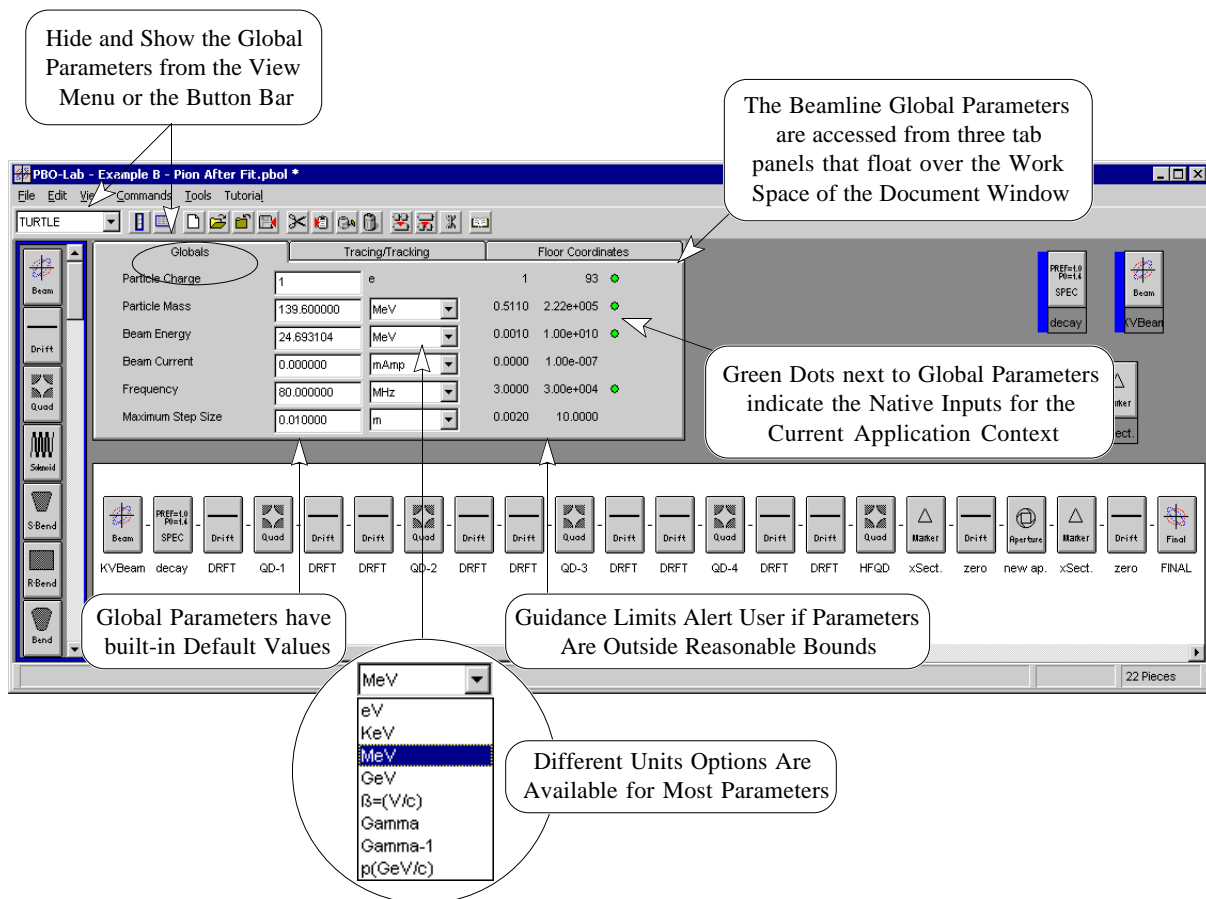

Figure 6. Beamline Global Parameters in the Document Window.
The native Global Parameters for TURTLE and DECAY-TURTLE include the Particle Charge, Particle Mass, Beam Energy and Frequency. These parameters are indicated with green dots, as illustrated in Figure 6, when the Application Context is set for TURTLE or DECAY-TURTLE in the Document Window.
The Particle Distribution Type pop up at the top of the Beam Elements tab panel is used to specify the type of particle distribution that will be generated using the users specified beam parameters. This pop up is illustrated in Figure 6 and contains selections for 6-D Equivalent Uniform, 4-D Equivalent Uniform (KV), Gaussian (5-Sigma) and Rectangular distribution types. The phase space ellipse plots in the Beam Window do not reflect the distribution selection. To display the initial particle distribution, place a Marker Piece after the Beam Piece in the beamline model and use it to specify a 2-D Correlation Plot for that location in the beamline. (See Marker Piece Section in this Chapter.)